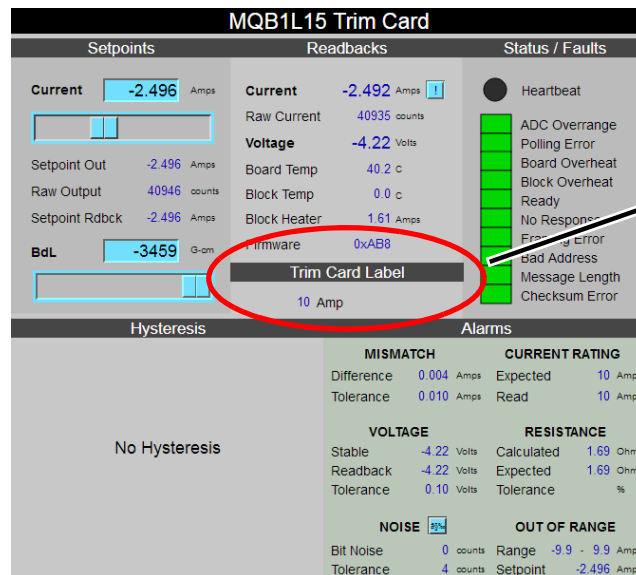

Figure 2-1: Trim Card Expert Screen
CAUTION: Ensure the replacement card type is correct. Trim cards are labeled on the front edge of the card. The replacement card label must match the **Trim Card Label** information on the EDM Expert screen (Figure 2-1, below). Grabbing the wrong card may delay the repair.
- a. On the *Trim Rack XXX* screen (see Figure 1-1 on page 3), click on the associated **Expert Screen** button  to open the expert screen (see Figure 2-1, below).
- b. Under **Trim Card Label** (see Figure 2-1, above), note the specified trim card type. **Write down the entire description**; it will be used to select the correct replacement trim card.